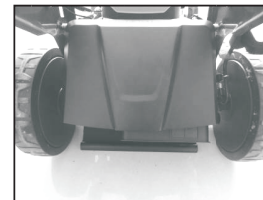

Fig.11D
3. Lower the rear cover. (Fig.11D)